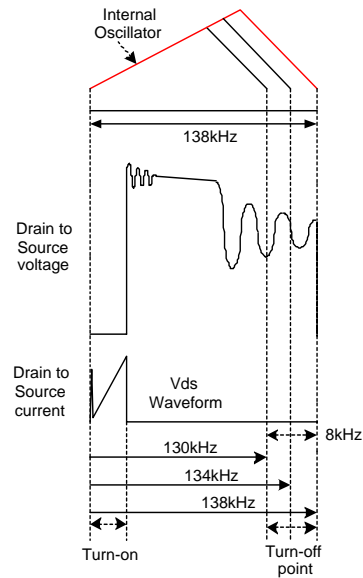

Figure 14. Frequency Modulation Waveforms
7. Frequency Modulation : EMI reduction can be accomplished by modulating the switching frequency of a SMPS. Frequency modulation can reduce EMI by spreading the energy over a wider frequency range. The amount of EMI reduction is directly related to the level of modulation (Fmod) and the rate of modulation. As can be seen in Figure 14, the frequency changes from 130kHz to 138kHz in 4mS for the FSD200B/FSD210B. Frequency modulation allows the use of a cost effective inductor instead of an AC input mode choke to satisfy the requirements of world wide EMI limits.